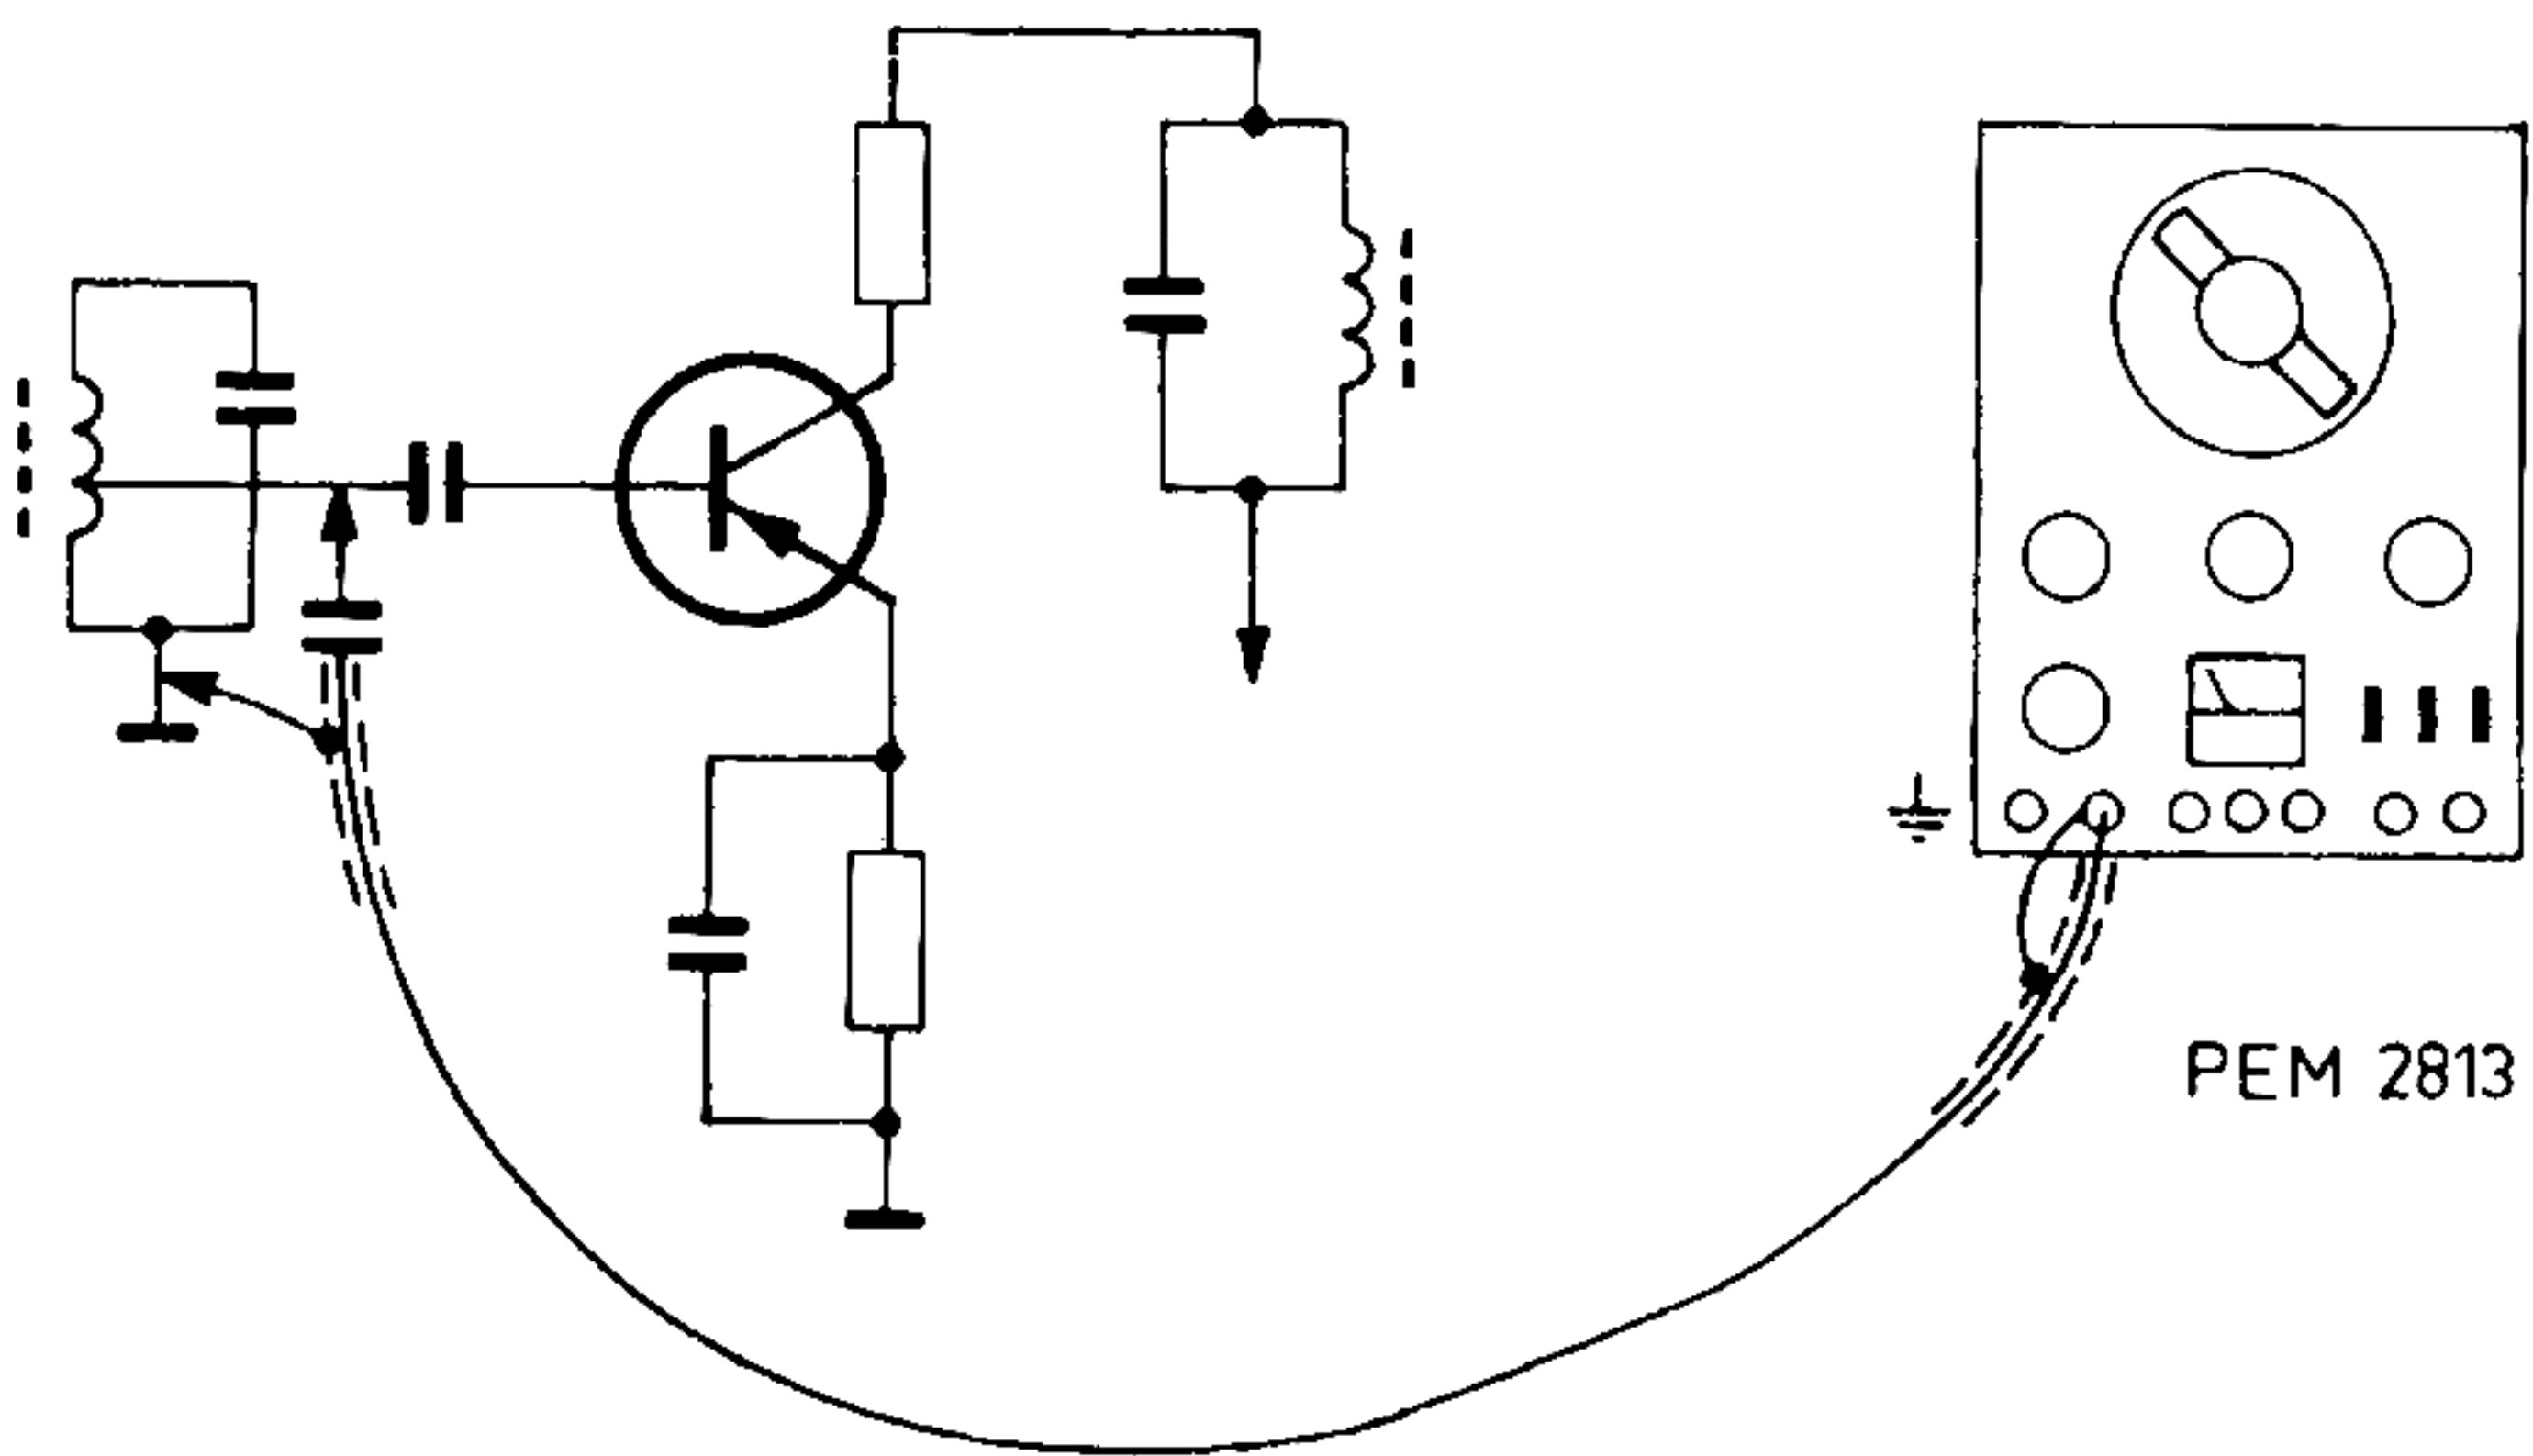

Fig. 13. Static adjustment of an A.M. receiver
1. Connect the PM 5321 generator to the valve connection indicated in the trimming table of the service data (Fig. 13) via the $30,000\ \text{pF}$ capacitor in the dummy aerial.